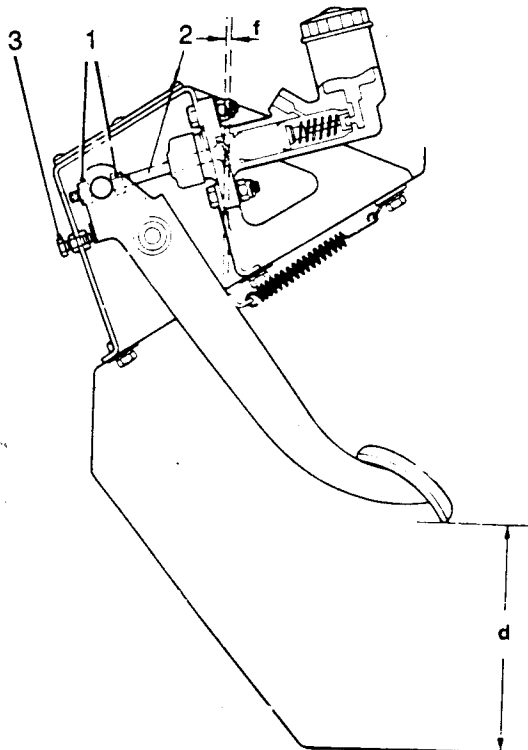

Fig H3.2
(3) Refer to Fig H3.2. Slacken both lock nuts (1) on the master cylinder push rod (2).
(4) Check the distance from the lower edge of the clutch pedal to the floor (distance 'd' in Fig H3.2). The correct distance is 140 mm.
(5) Adjust the pedal stop (3) if necessary to obtain the correct distance.
(6) Adjust the position of the master cylinder push rod (2) until there is approximately 1,5 mm free play between the push rod and the master cylinder piston (distance 'f' on Fig H3.2).
(7) Tighten both lock nuts (1).
(8) Check the clutch pedal for a minimum of 6 mm free movement of the pedal before pressure is felt. Readjust the master cylinder push rod if necessary.
(9) Replace the top cover and gasket. Use a silicon rubber adhesive to retain the gasket if necessary.
(10) Replace the bonnet.